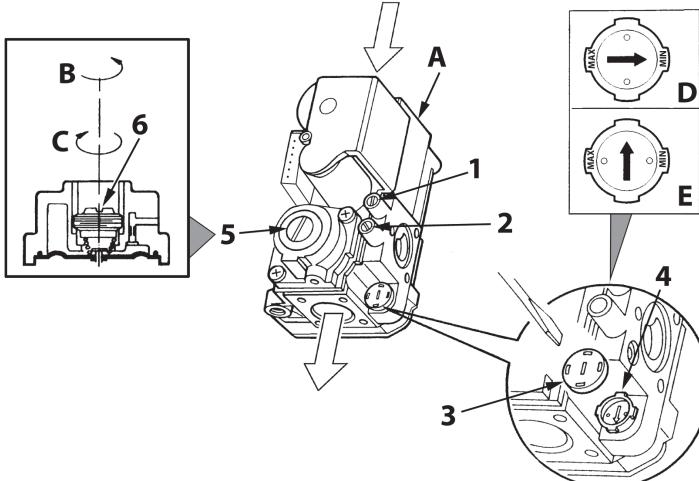

fig. 18 - Pressure adjustment
On PEGASUS D 45 K 130 boilers, the firebox heating power and therefore the heat output delivered to the heating water can only be adjusted by means of the main burner through the gas valve, (see fig. 18). The diagrams given in the section cap. 5.2 indicate the variation in heat output delivered to the water according to the change in burner operating pressure. Being able to adjust boiler output to the actual heating requirements means above all reducing heat losses, and therefore obtaining fuel saving. Also, with the variation in output, also regulated by the provisions, the boilers keep their efficiency levels and combustion characteristics practically unchanged
1. Using a small screwdriver, remove the secondary operator protection cap 5 of the gas valve of fig. 18.
2. Connect a manometer to the pressure point 2 (fig. 18) located below the gas valve, and turn the boiler thermostat knob to the maximum value.
3. Adjust the pressure to the required value by means of the screw 6 (fig. 18), referring to the diagrams given in section cap. 5.2.
2. Remove the small protection cap 3 (fig. 18) from the gas valve. Using a small screwdriver, adjust the ignition "STEP" for the required gas (**G20-G25** position **D** fig. 18 or **G30-G31** position **E** fig. 18); then refit the cap.
- Vent the air from the gas pipes by means of the gas valve pressure point 1 (fig. 18).